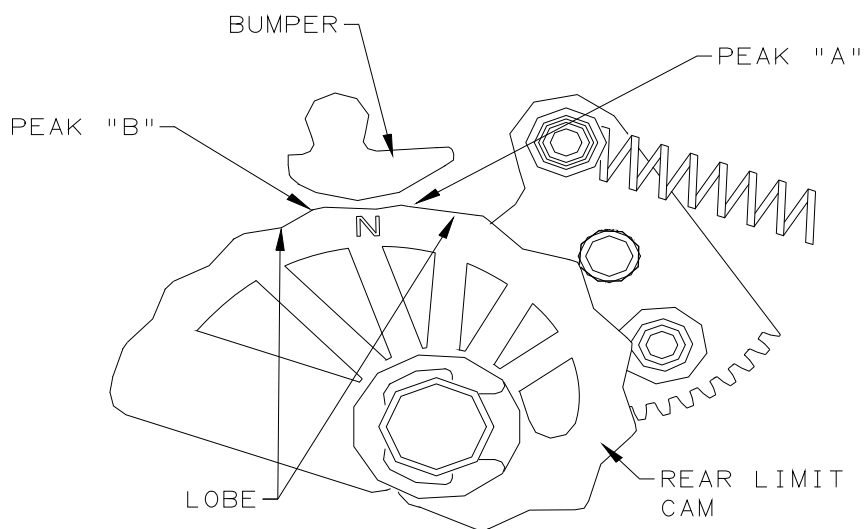

FIGURE 9
6. WITH 1/4" ALLEN WRENCH, REMOVE SET SCREW LOCATED IN FRONT LIMIT ARM AND REPLACE IT WITH REPLACEMENT SET SCREW. SEE FIGURE 9.
7. ADJUST REAR LIMIT ARM SO PROFILE OF BUMPER IS ALIGNED WITH NEUTRAL LOBE OF REAR LIMIT CAM (NEUTRAL LOBE IS DESIGNATED WITH "N" ON SIDE OF REAR LIMIT CAM). ADJUST SET SCREW IN FRONT LIMIT ARM UNTIL PEAK "A" JUST CLEARS BUMPER DURING ROTATION AND PEAK "B" PREVENTS REAR LIMIT CAM FROM TRAVELING TO NEXT LOBE. CHECK ADJUSTMENT BY THRUSTING REAR LIMIT LEVER UP AND DOWN FIRMLY. REAR LIMIT CAM SHOULD MOVE FREELY DURING ROTATION WITHOUT LOCKING UP ON REAR LIMIT ARM. SEE FIGURES 9 & 10.